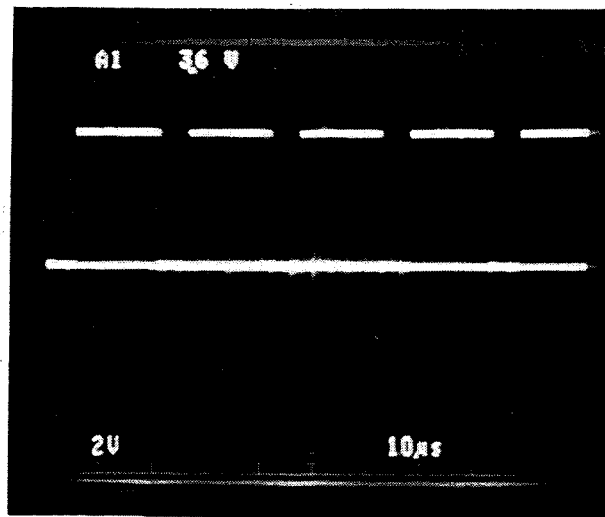

Figure 3.4 Converter Calibration Dither.
8. Calibration of offset trim both channels: (terminate L/R inputs). Probe MSB pin 1/U45 and adjust R121 for 50% dither on scope. See Figure 3.4. Measure voltage at wiper of R121 (south side of R120) and then adjust R121 for a 1.00 Volt decrease below (negative) what it was at dither.